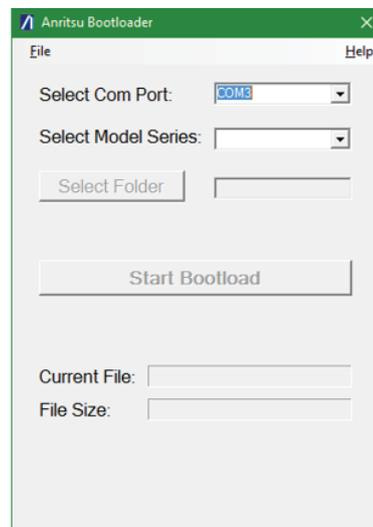

Figure 5-1. Anritsu Bootloader
- Start | Anritsu | Anritsu Bootloader. The Bootloader will look similar to Figure 5-1.